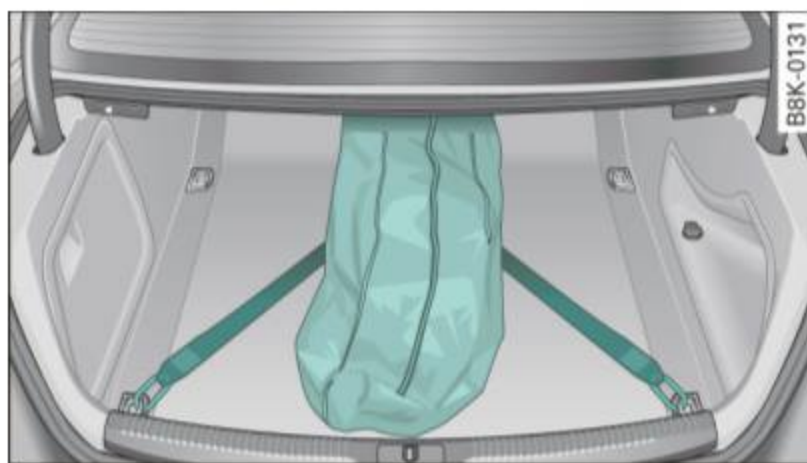

Fig. 96 Luggage compartment:
- The ski sack has two belts with hooks on the underside. Hang the hooks to the rear fastening eyelets in the luggage compartment ⇒ fig. 96.